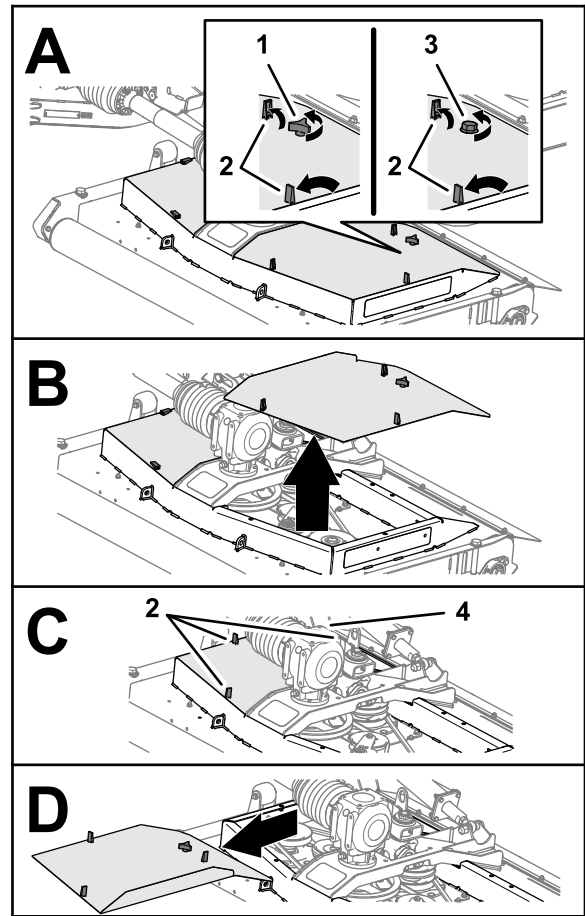

Figure 40
1. Release the 3 latches that secure the cover of the mower deck (Figure 40).
2. Loosen the knob or bolt (CE mower deck) that secures the cover of the mower deck to the mower deck (Figure 40).
4. Repeat steps 1 and 2 for the other cover (Figure 40).